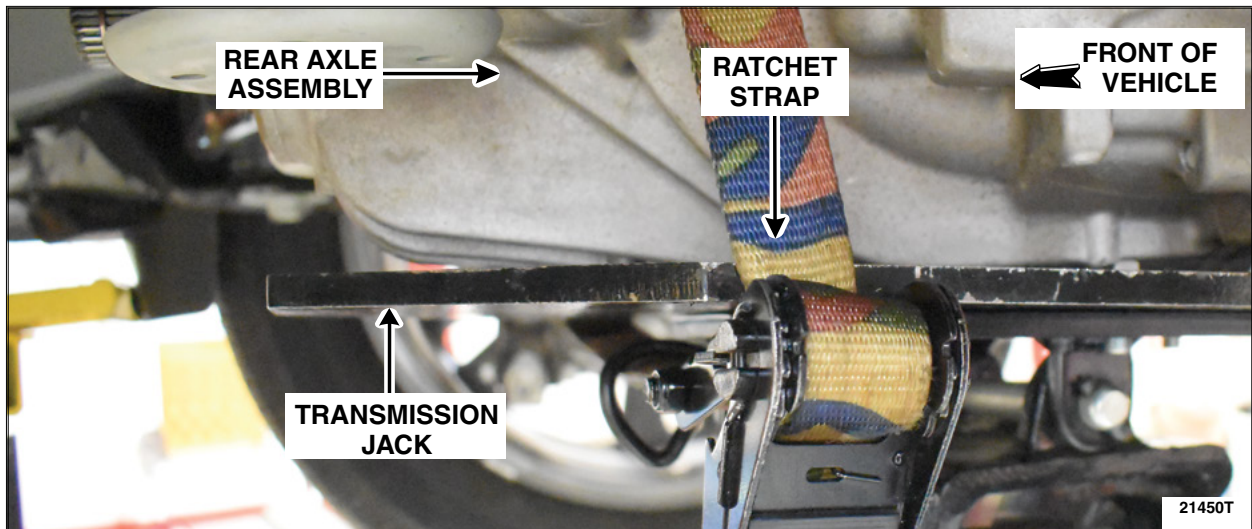

FIGURE 8
14. Secure the rear axle assembly to the transmission jack using a ratchet strap. See Figure 8.